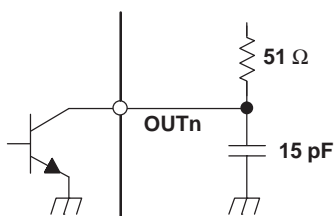

Figure 5. Test Circuit for  $t_{r1}$ ,  $t_{f1}$ ,  $t_{pd2}$ ,  $t_{pd3}$ ,  $t_{pd4}$
- (2) See Figure 5 . Defined as from 10% to 90%
- (4) See Figure 5 and Figure 10
- (5) See Figure 5 and Figure 10